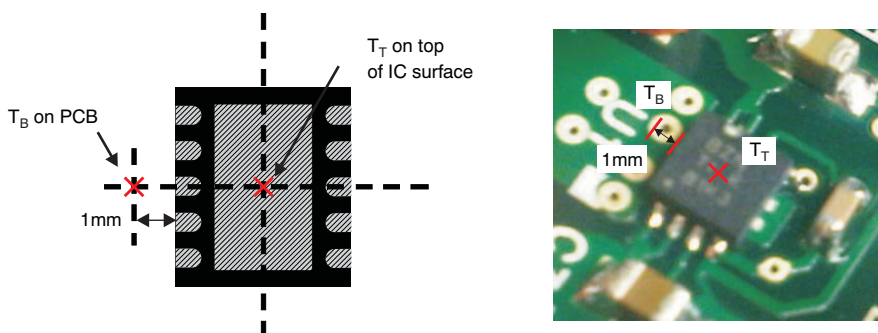

Figure 31. Measuring Points for  $T_T$  and  $T_B$
- $T_B$  is the PCB temperature measured 1mm away from the IC package *on the PCB surface* (as Figure 31 shows).